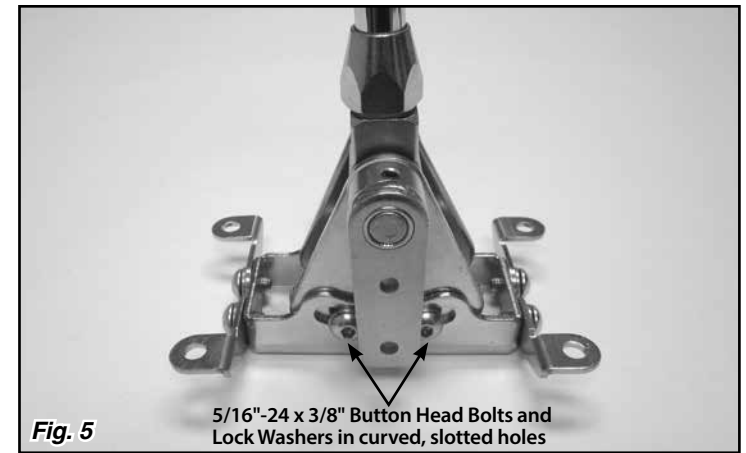

Fig. 5
Step 4: Make sure the two 5/16"-24 x 3/8" button head bolts and lock washers that are in the curved, slotted holes in the driver side of the floor mount mounting bracket are tight. Place the Shifter in the desired location on the vehicle's floor. Make sure the shifter lever will not interfere with the dash when in Park, or with the seat when in low gear. The shifter assembly may be tilted forward or backward if needed by loosening the two 5/16"-24 x 3/8" button head bolts and lock washers that are in the curved, slotted holes in the left side of the floor mount mounting bracket. Retighten the button head bolts in the curved, slotted holes once you have the shifter assembly at the angle you want. Fig. 5